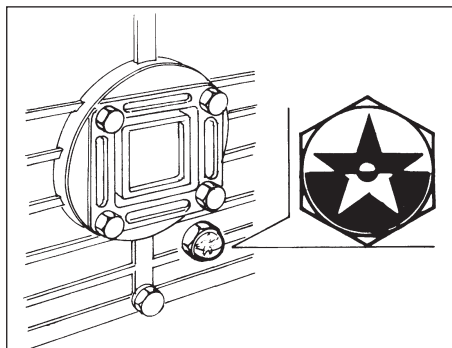

fig. 1
- check the oil level of lubricated compressors through the transparent tap (*fig. 1*), the red mark indicates the ideal level (should the level differ from normal, please read the instructions under the title "Maintenance Interventions");